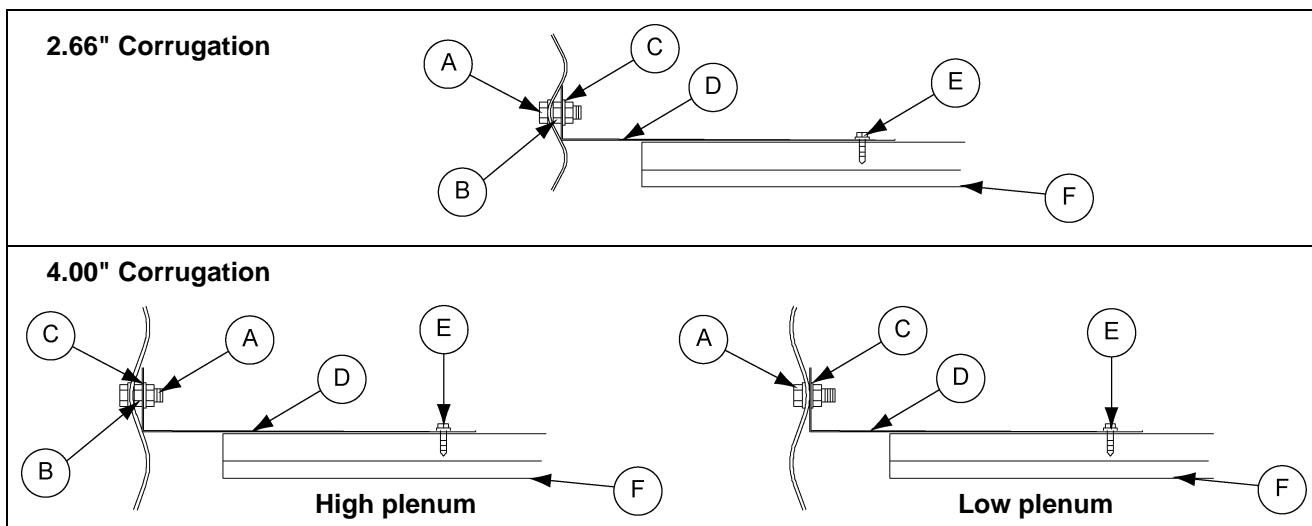

Figure 7B
After floor is in place, place 1-1/4" bolts through pre-punched holes in sidewall. Bolt heads should be on outside of bin. See Figure 7B to determine the correct sequence for placing the nuts and washers. Finger tighten the nuts until all flashing is installed, then go back and fully tighten. While holding the flashing flat and pushing in towards the bin wall, fasten the flashing (D) to the floor with two (2) sheet metal screws (E).